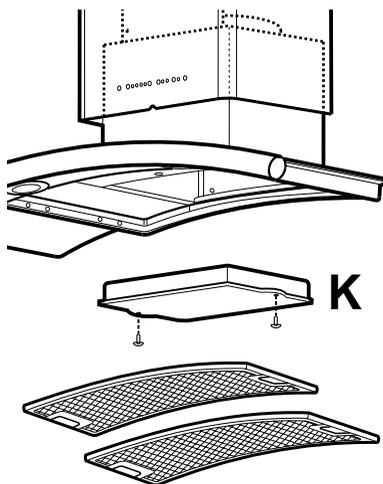

Fig. 5
- Fit the charcoal filter and fix it to the body of the hood with two supplied screws. **Fig. 5.**